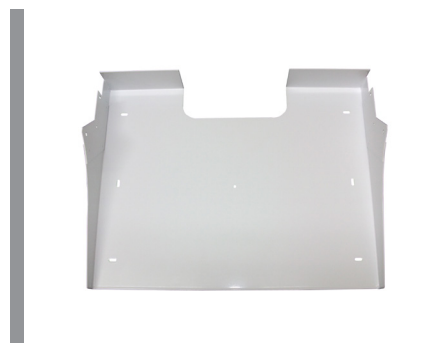
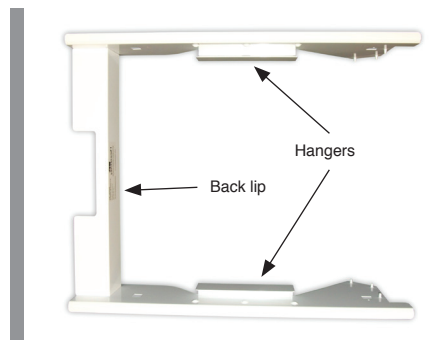

FIG 6 - Door Bracket
FIG 7 - Collar
- Align the door bracket (fig 6) to the collar (fig 7) and lightly tighten in place using the nuts provided.